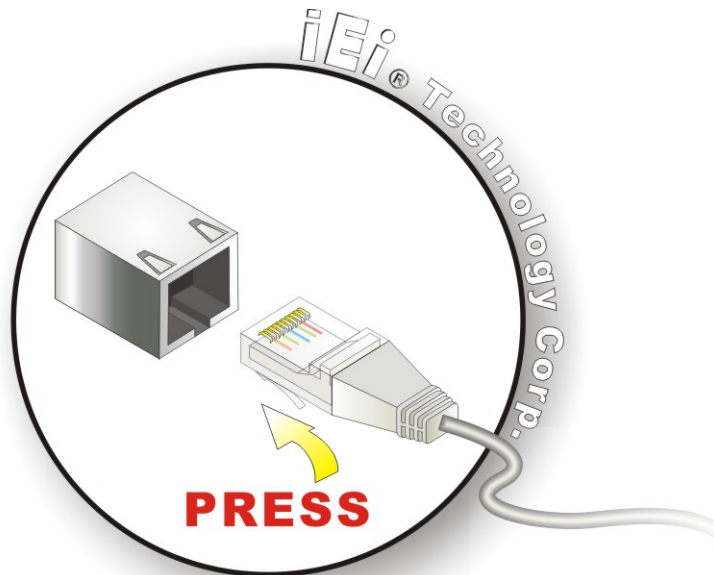

Figure 3-10: LAN Connection
Step 2: Align the connectors. Align the RJ-45 connector on the LAN cable with one of the RJ-45 connectors on the TANK-101B/BW. See **Figure 3-10**.